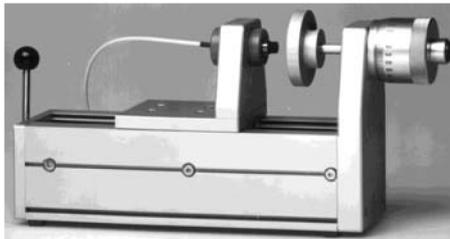

Fig. 17 Micrometer calibration device
1) Special micrometer calibration device with non rotating micrometer spindle, available as an accessory, see Fig. 17, or